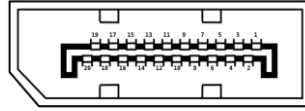

Figure 3-29: External DP Connector Pinouts
- CN Location:** See **Figure 3-29**